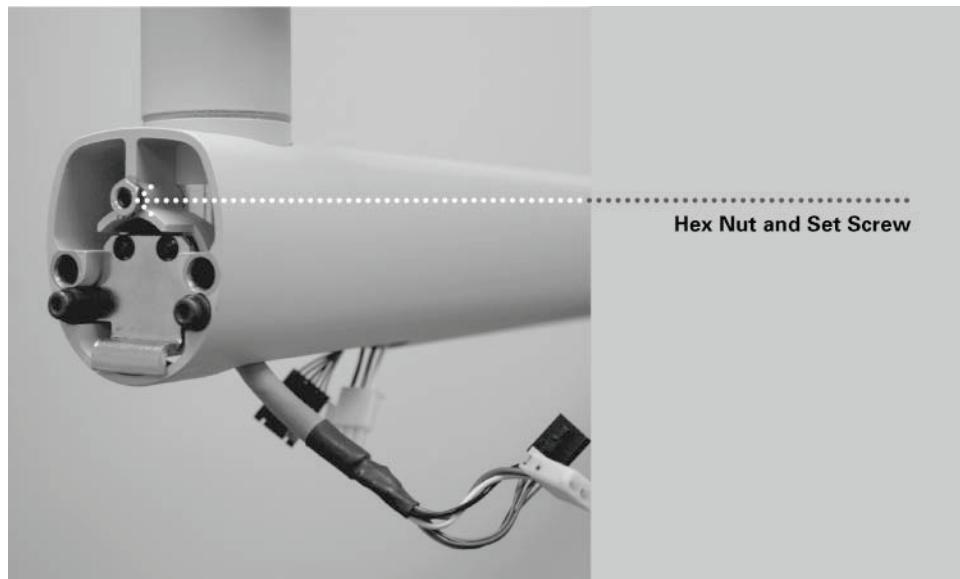

Figure 20
2. Insert the M6 x 25 mm long set screw, as shown in Figure 20. Using a 3 mm Allen wrench, tighten the screw fully than back off $\frac{1}{4}$ and secure with the hex nut.